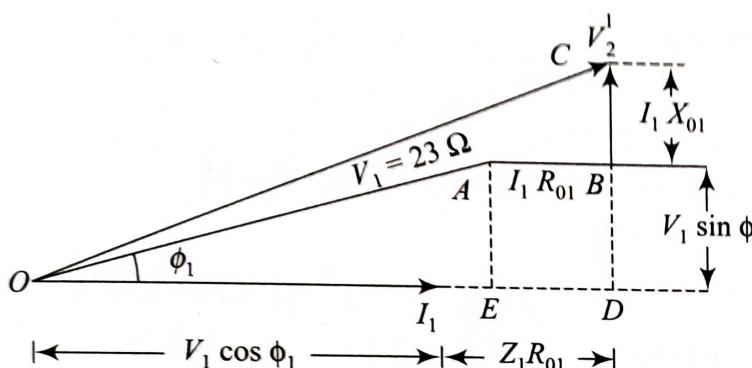

Figure 3.29
- (ii) From Figure 3.29, the applied voltage V_1 is the vector sum of V_1^1 and $I_1 Z_{01}$